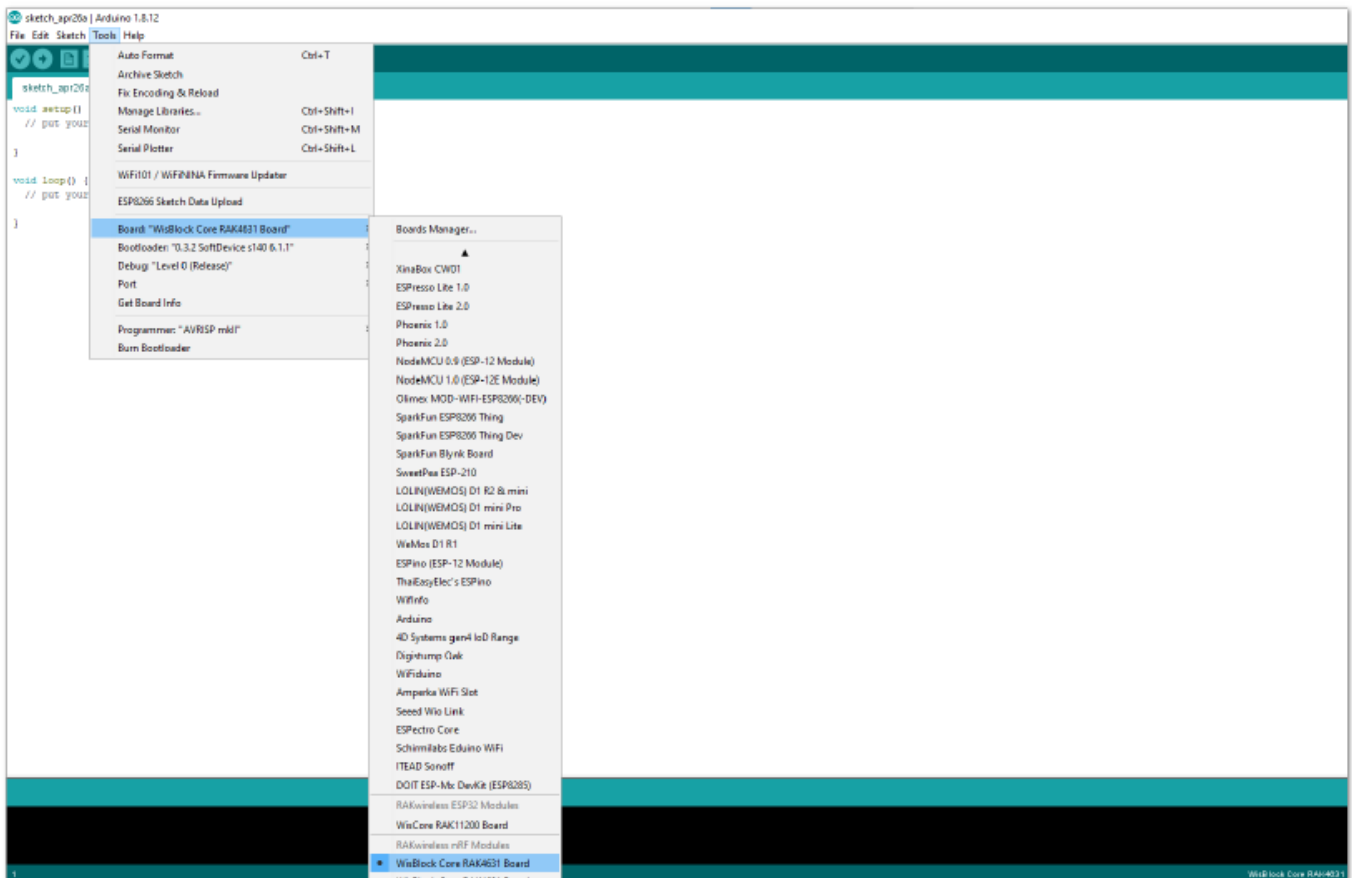
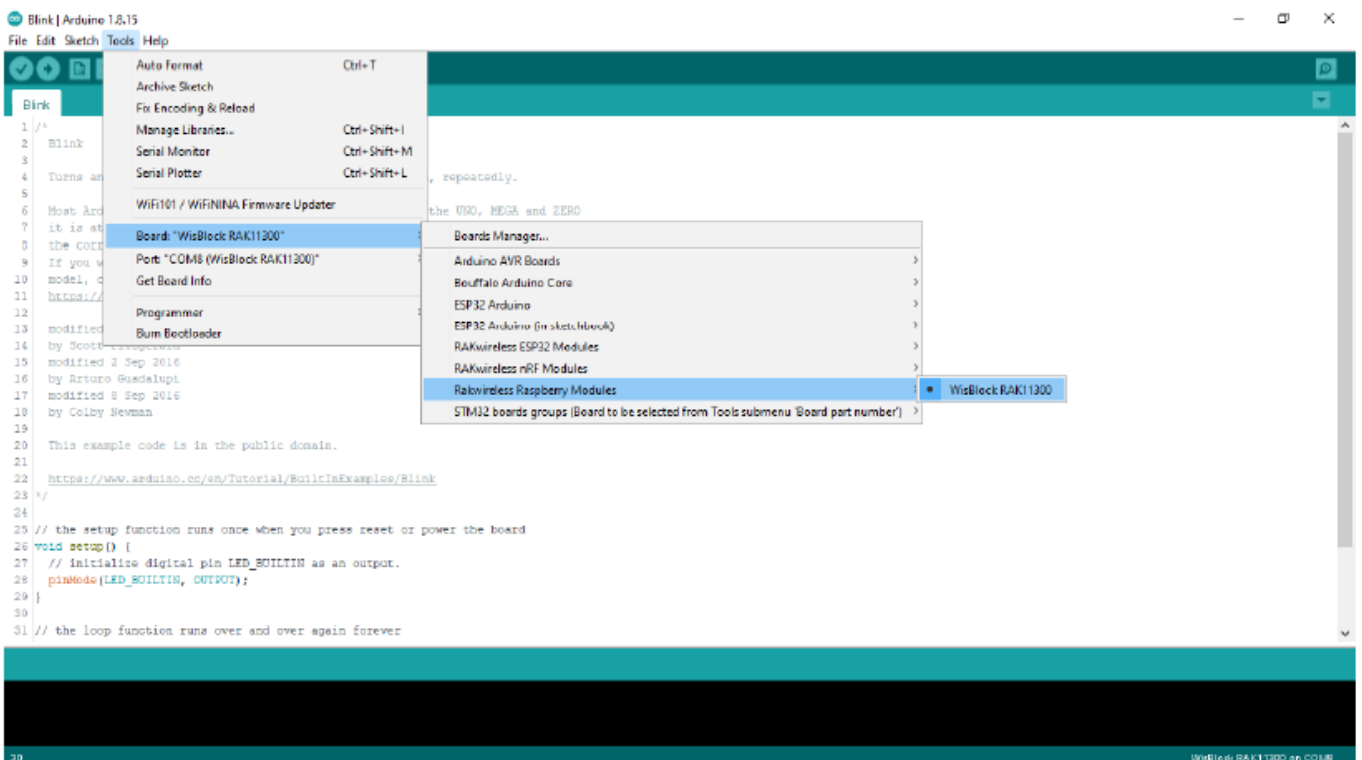

Figure 6: Selecting RAK4631 as WisBlock Core
Figure 8: Selecting RAK11310 as WisBlock Core
1. First, you need to select the WisBlock Core you have, as shown in **Figures 6** to Figure 8. **RAK4631 WisBlock Core**